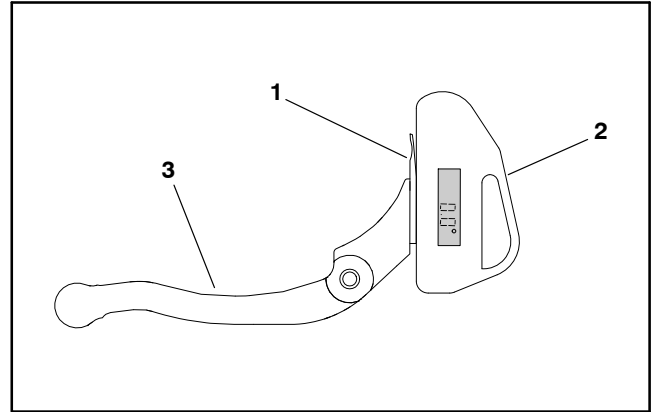

Figure 12
1. Place the angle indicator on the bottom side of the bedknife with the digital display facing you as shown (Fig. 12).